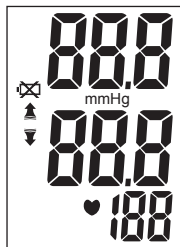

Fig. 2
4. Press the START/STOP button to turn the unit on; the unit will briefly flash a self-test, Fig 2.